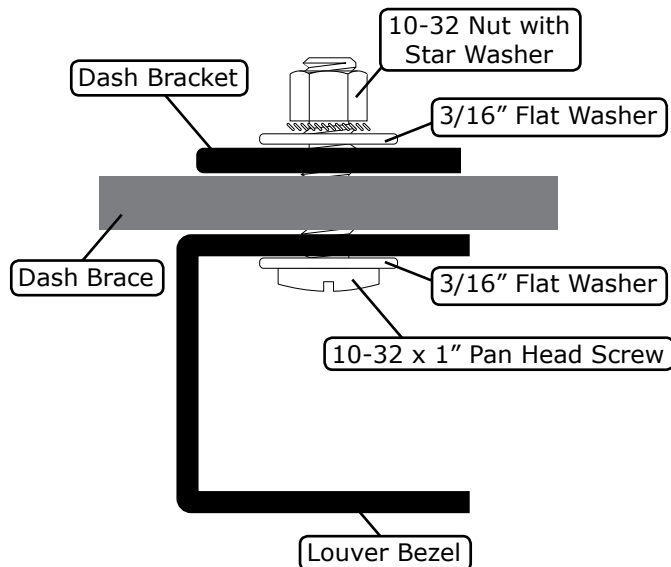

Figure 1
1. With the louver bezel mounted and the dash bracket secured to the evaporator, drill a 7/32" hole aligned with the center of the slot on the dash bracket. Drill through the OEM dash brace, the bottom of the dash and the top of the louver bezel. Attach the dash bracket to the dash through all drilled holes using a 10-32 x 1" pan head screw, (2) 3/16" flat washers, and a 10-32 nut with star washer (See Photo 1 and Figure 1, below).